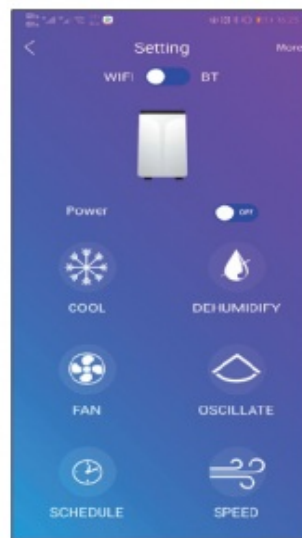

Figure 3
Step 5. After connecting successfully, the app can be used to set cooling schedules, change cooling modes and more (fig. 3).